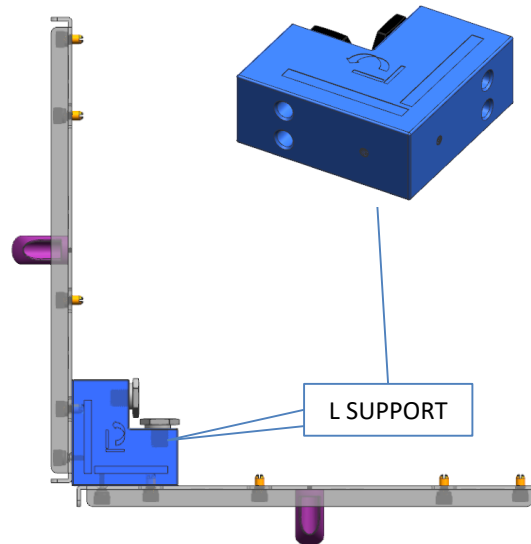

Fig 17. JIG F with the L Support Fastened
- Align the fastened Stud with the L Support and then fasten JIG screws. (Fig 17)